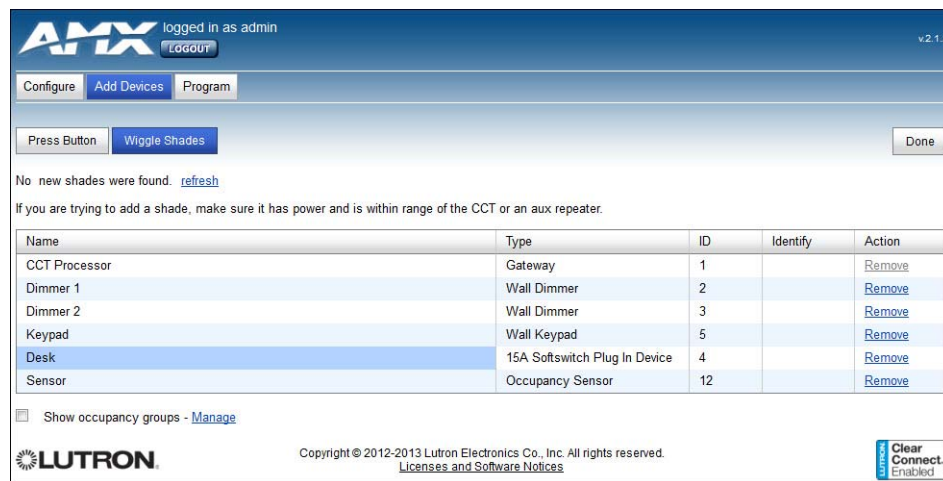

FIG. 32 No New Shades Found notice
2. If the NXB-CCG does not find available devices within its signal range, the *Wiggle Shades* function will state so (FIG. 32). You may try again by clicking the *refresh* link.